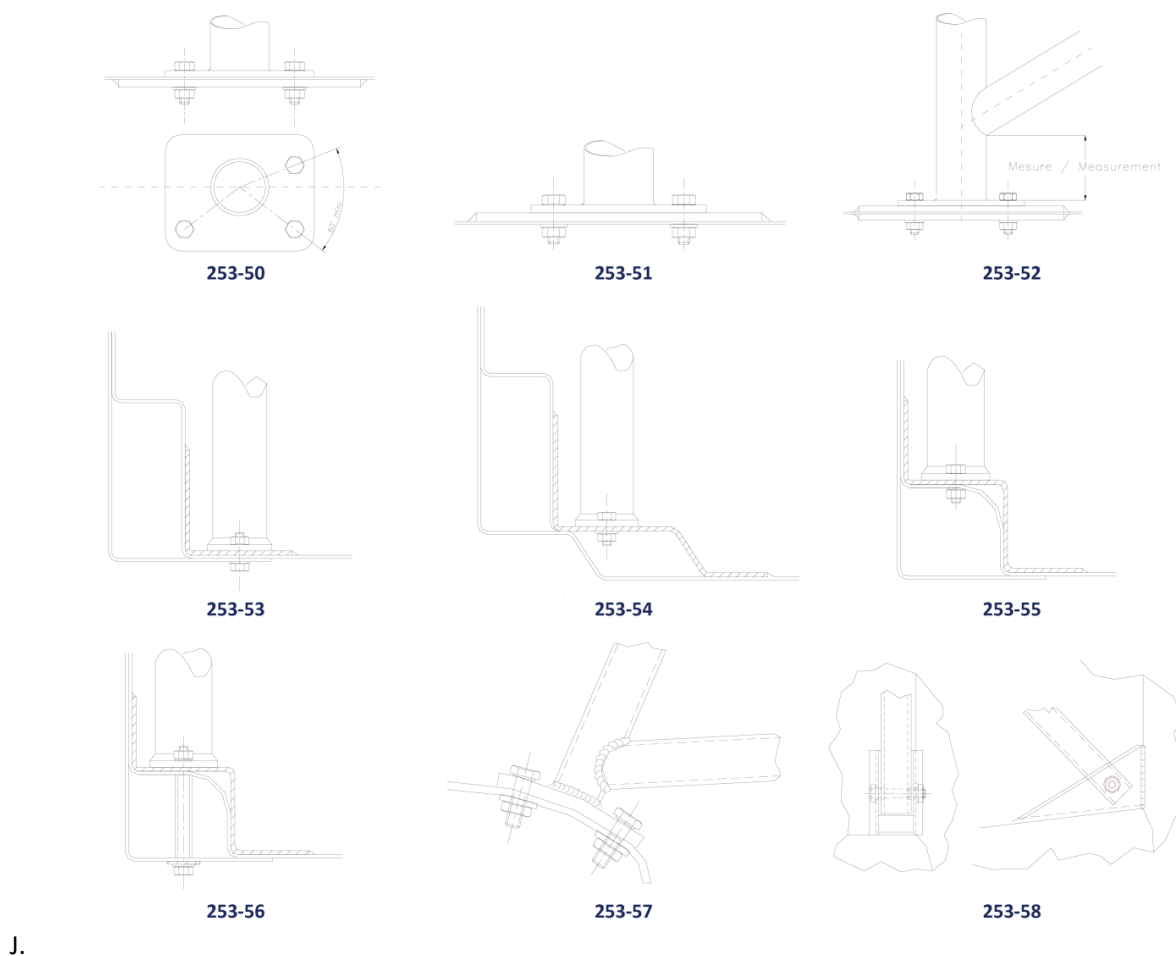

Fig. 5
- H. The roll cage must be equipped with 6 points or better to chassis/car body (Fig. 5). According to annex "J" FIA, Article 253.